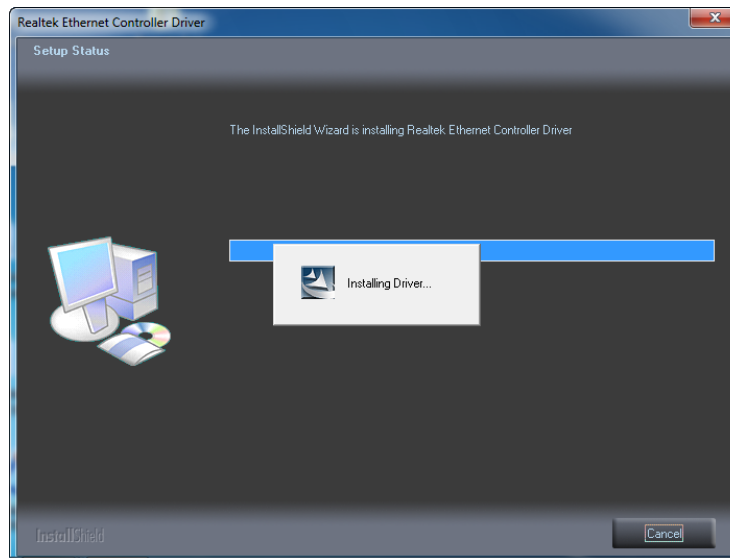

Figure 8-28: LAN Driver Setup Status Screen
Step 9: The **Setup Status** screen in **Figure 8-28** appears.